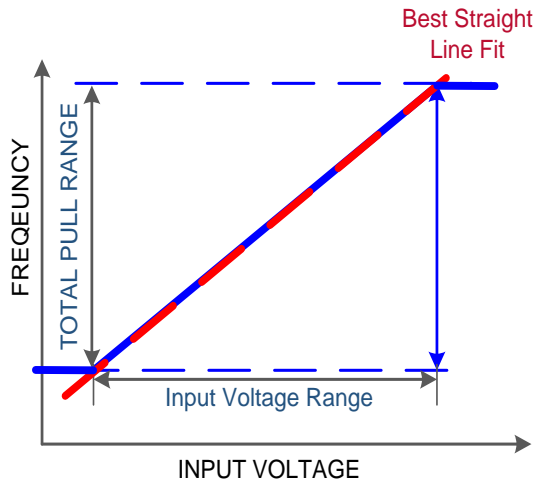

Figure 25. Typical SiTime VCTCXO Linearity
In any VCTCXO, there will be some deviation of the frequency-voltage (FV) characteristic from an ideal straight line. Linearity is the ratio of this maximum deviation to the total pull range, expressed as a percentage. Figure 25 below shows the typical pull linearity of a SiTime VCTCXO. The linearity is excellent (1% maximum) relative to most quartz offerings because the frequency pulling is achieved with a PLL rather than varactor diodes.